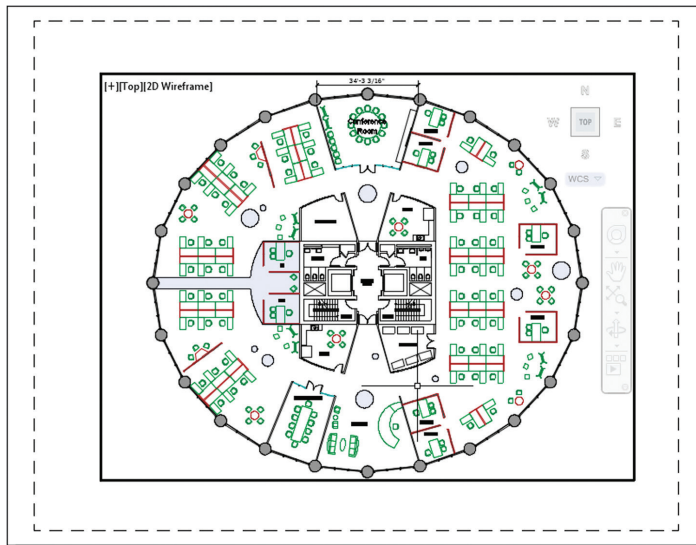

FIGURE 13.14 Model space active inside a floating viewport
2. Double-click anywhere inside the viewport on Layout1 to switch into model space. The viewport's frame highlights with a thicker representation when displaying model space (see Figure 13.14). Move the cursor inside the viewport and observe that the crosshair cursor is available only within the viewport.